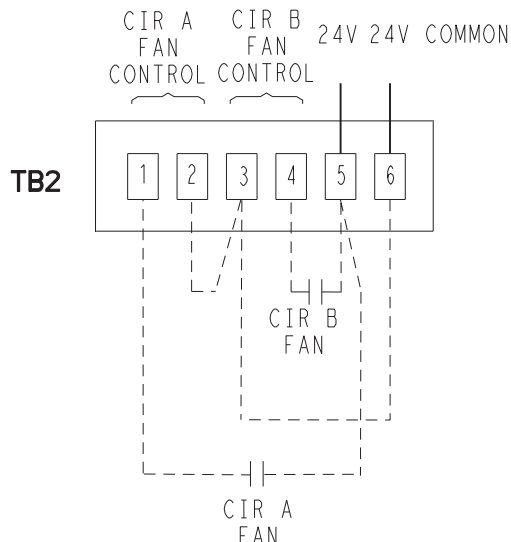

Fig. 30 — 09RC035-230 with 30HX Control Circuit Wiring
- Install field-supplied jumpers between terminals 2, 3 and 6 of TB2. See Fig. 30.